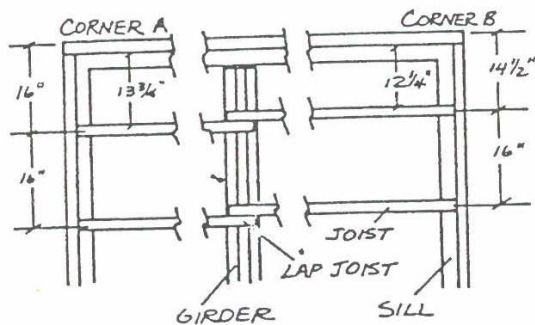

FIGURE 2
1. Lay out floor-joist positions. Mark joist locations on the sill plates using two marks, one for each side of the joist (see Figure 2). Mark the end joist location on the sill, even with the outside edge of the sill. Mark the location of the first interior joist, so that spacing between joists is 13 3/4 in. (16 in. from outside of sill to centerline of first interior joist). Mark position of other joists, spacing them 16 in. o.c., continuing to the end of the house. The location of the end joist at this end of the house should also be marked on the sill.